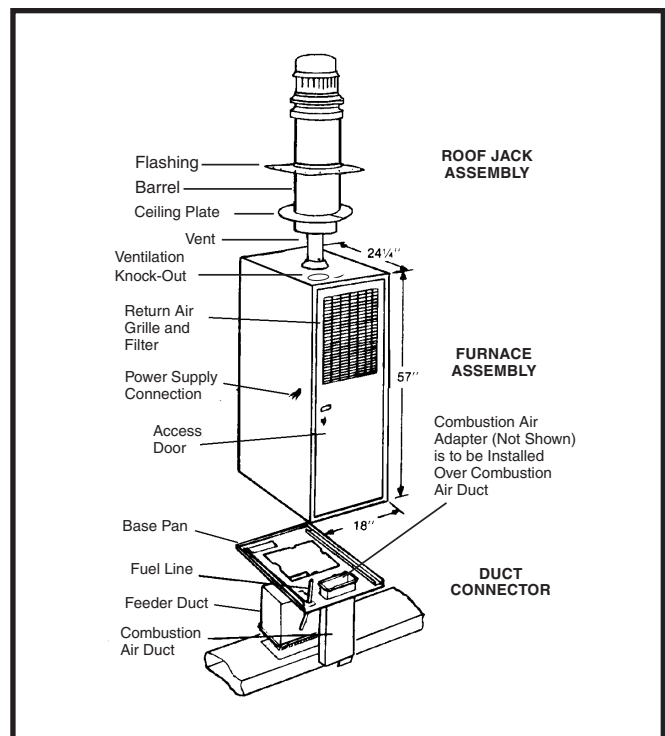
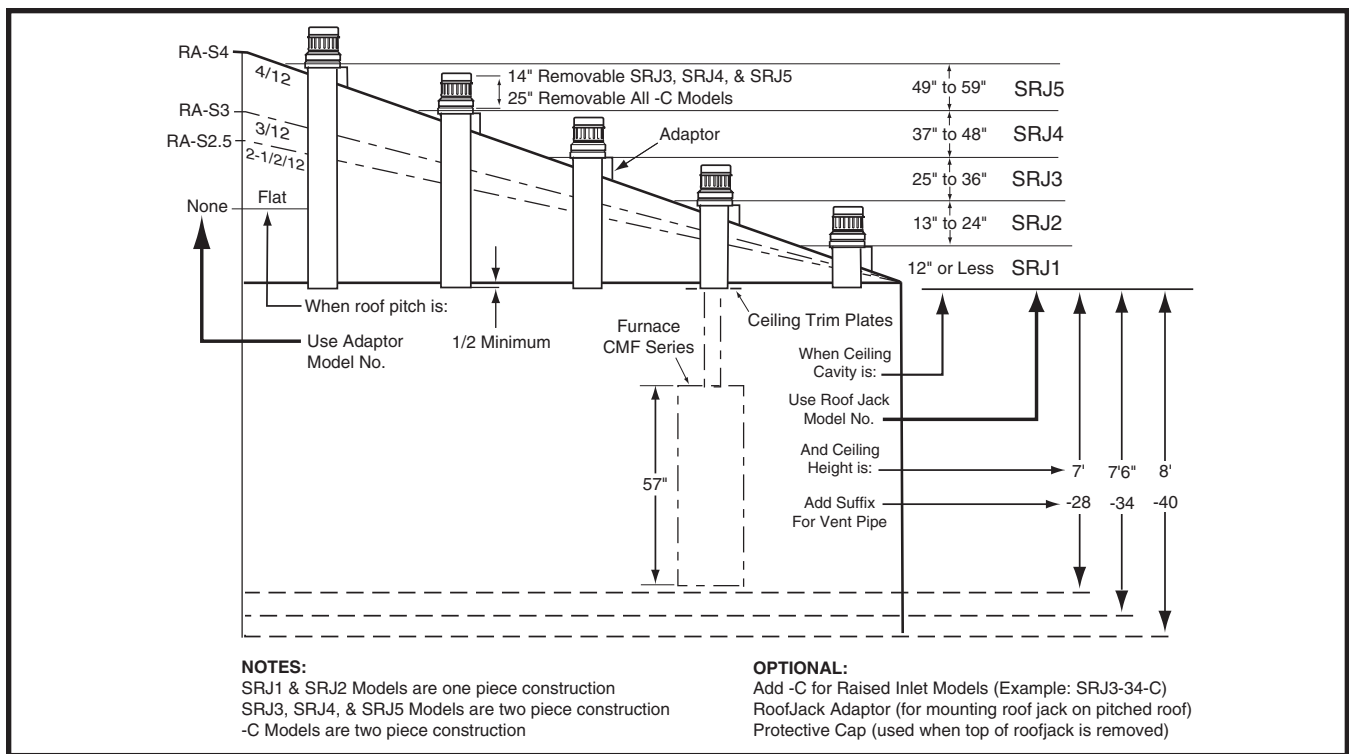

Figure 8. Typical Furnace Installation for Manufactured Housing Applications
Figure 9. Selection of Roof Jack & Accessories Chart
Required ceiling and roof cut-out openings must be accurately located to prevent hazardous misalignment of the furnace and roof jack. Figure 8 displays a typical installation for manufactured housing applications. Refer to Figure 9 \(page 14\) to determine appropriate SRJ roof jack and accessories required for your installation. Install only SRJ series roof jack as specified on the furnace label. **NOTE:** A roof jack adaptor is required for sloped roofs.
- The roof jack and vent pipe as determined from the chart in Figure 9 must be applied.